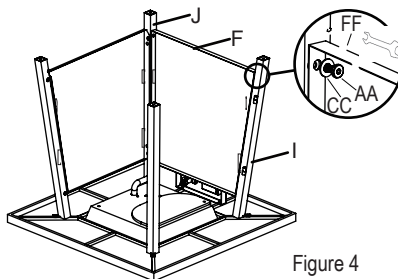

Figure 4
4. Insert panel (C/D/F) to front-left leg (J) and front-right leg (I) with bolts (AA) and washer (CC) using hex screw driver (DD), (see Figure 4).